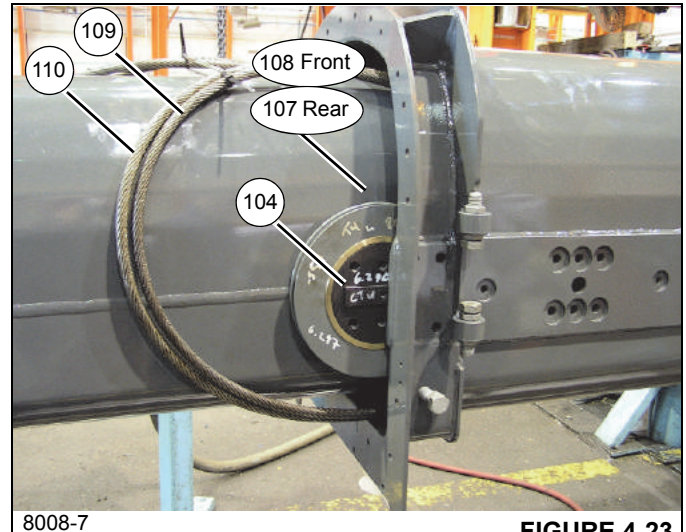

FIGURE 4-23
- 79. Pull the tele 4 forward extend cables (109) away from the rear sheaves (107) (see Figure 4-23).
- 80. Remove the six capscrews (105) and shaft (104) securing the rear sheave (107) to the inside of tele 3 (4) (left and right sides) (see Figure 4-23).
- 81. Remove tele 4 (5) from tele 3 (4); set tele 4 (5) on adequate supports.
- 76. Pull the tele 4 forward extend cables (110) away from the front sheaves (108).
- 77. Remove the six capscrews (105) and shaft (104) securing the front sheave (108) to the inside of tele 3 (4) (left and right sides) (see Figure 4-23).